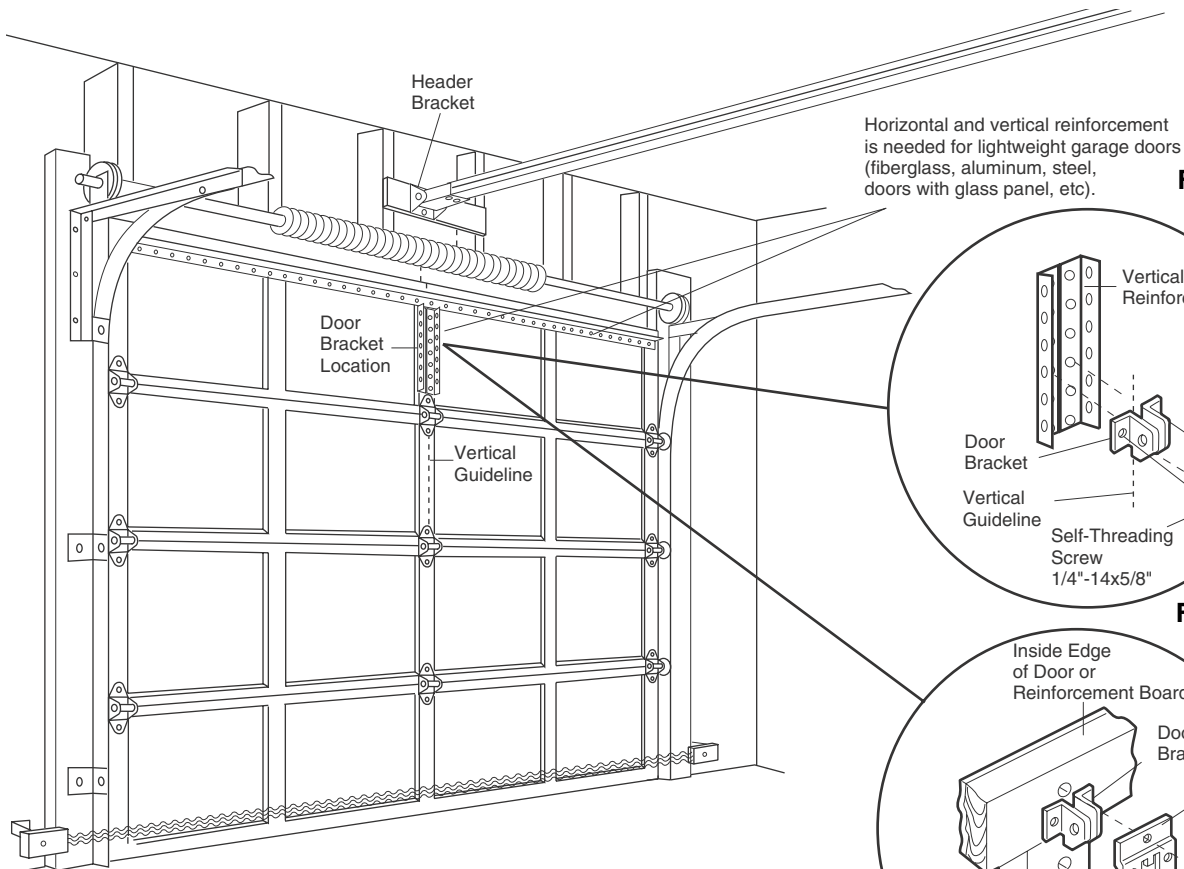

Figure 1
- Mark and drill 3/16" left and right fastening holes. Secure the bracket as shown in Figure 1 if there is vertical reinforcement.